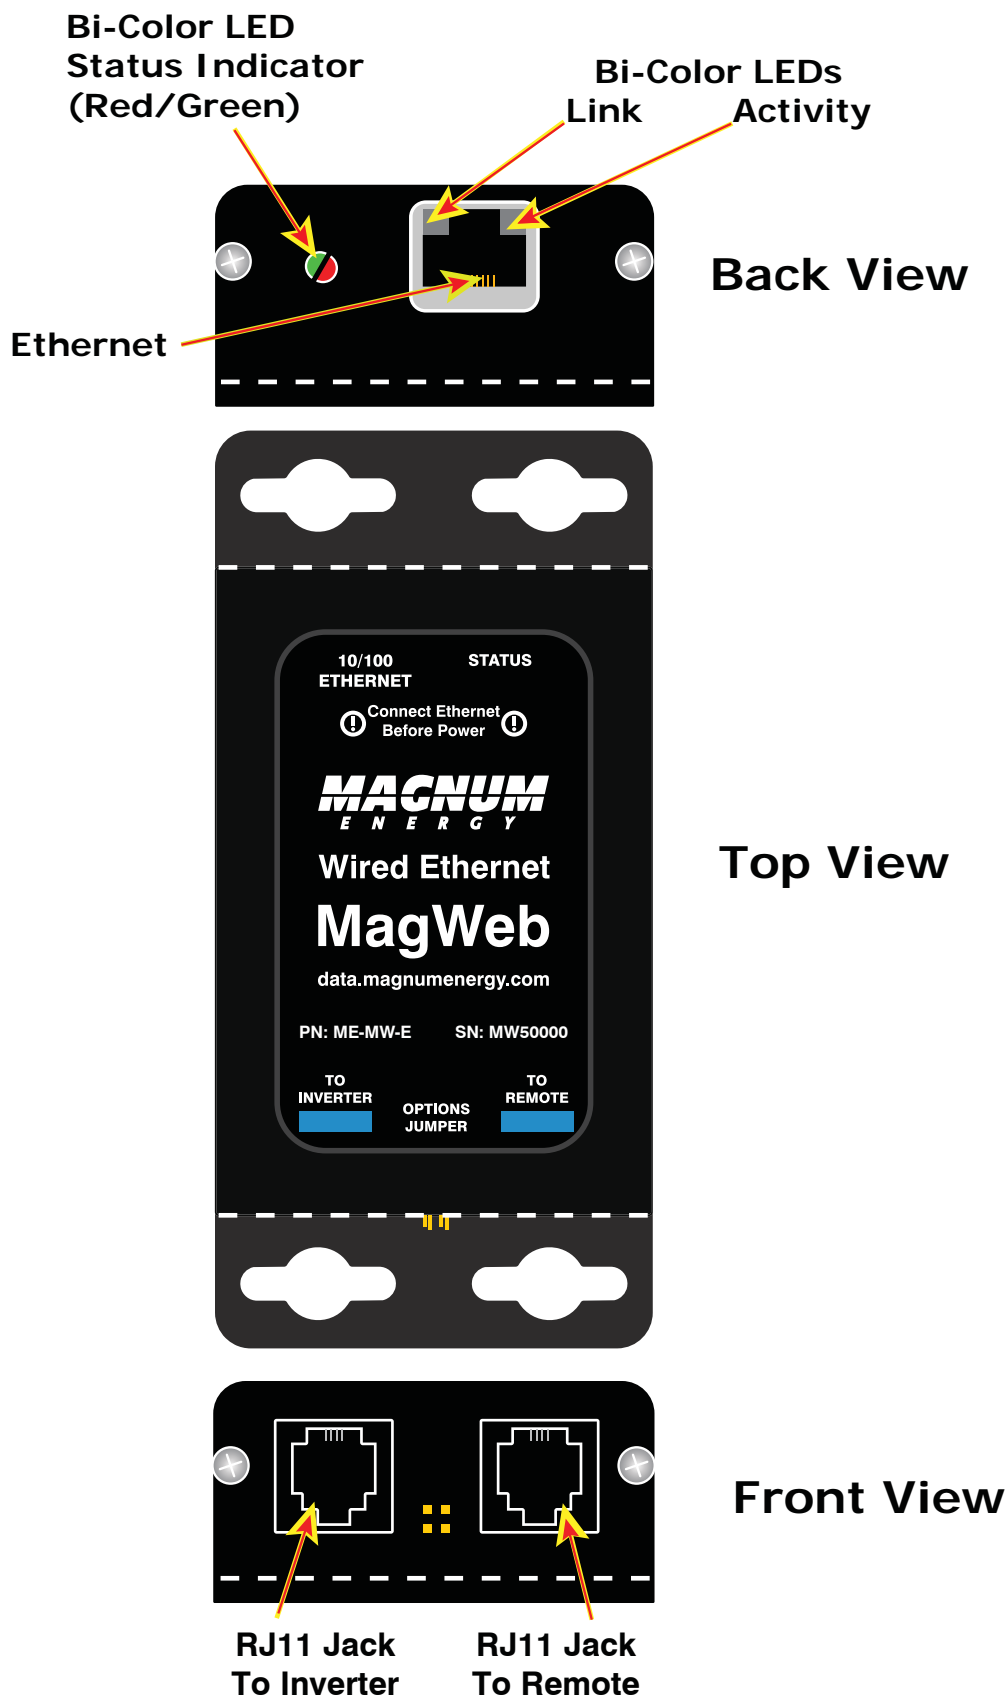

Figure 4-1, MagWeb Wired Ethernet LED Diagram
**Note:** Refer to Figure 4-1 (Back View) to determine the positions of the Activity and Link bi-color LEDs within the MagWeb's Ethernet port.